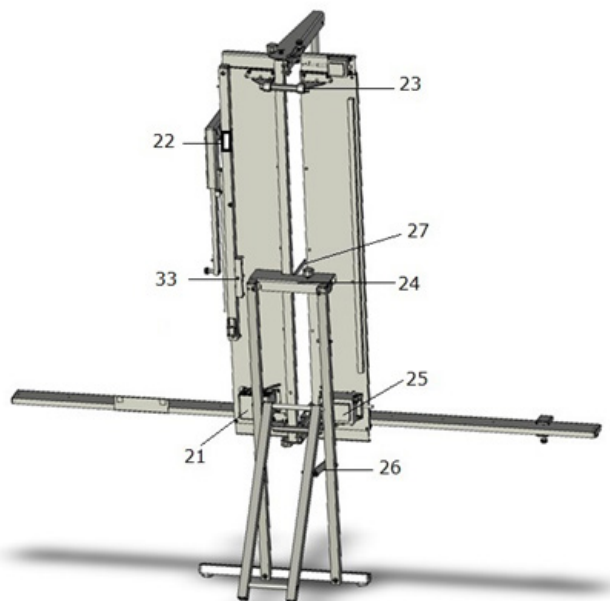

Fig. 2
- Use the handle provided (33, Fig. 2).
- Open the support as shown in Fig. 2 and fix the locking mechanism (26) for a secure position.
- On the rear of the device, open the safety latch on the device holder (24, Fig. 2) and attach it to the top bar of the support.
- Close the safety latch on the device holder (24, Fig. 2 + 3) and screw it tightly.
- Release the locking mechanism (26).
- Lean the device against the wall with the leaning support (23).
- On the rear of the device, open the safety latch on the device holder (24, Fig. 2 + 3) and hang it in the top bar of the backrest.
- The transformer (25) and the storage box (21) now touch the lower scaffolding bar of the backrest.